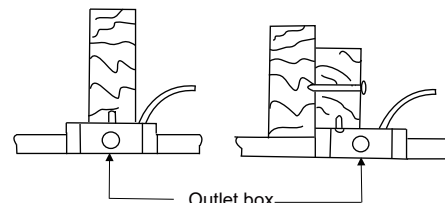

Fig. 2
**Step 2.** Repeat same process for the remaining blades.(Fig.2)